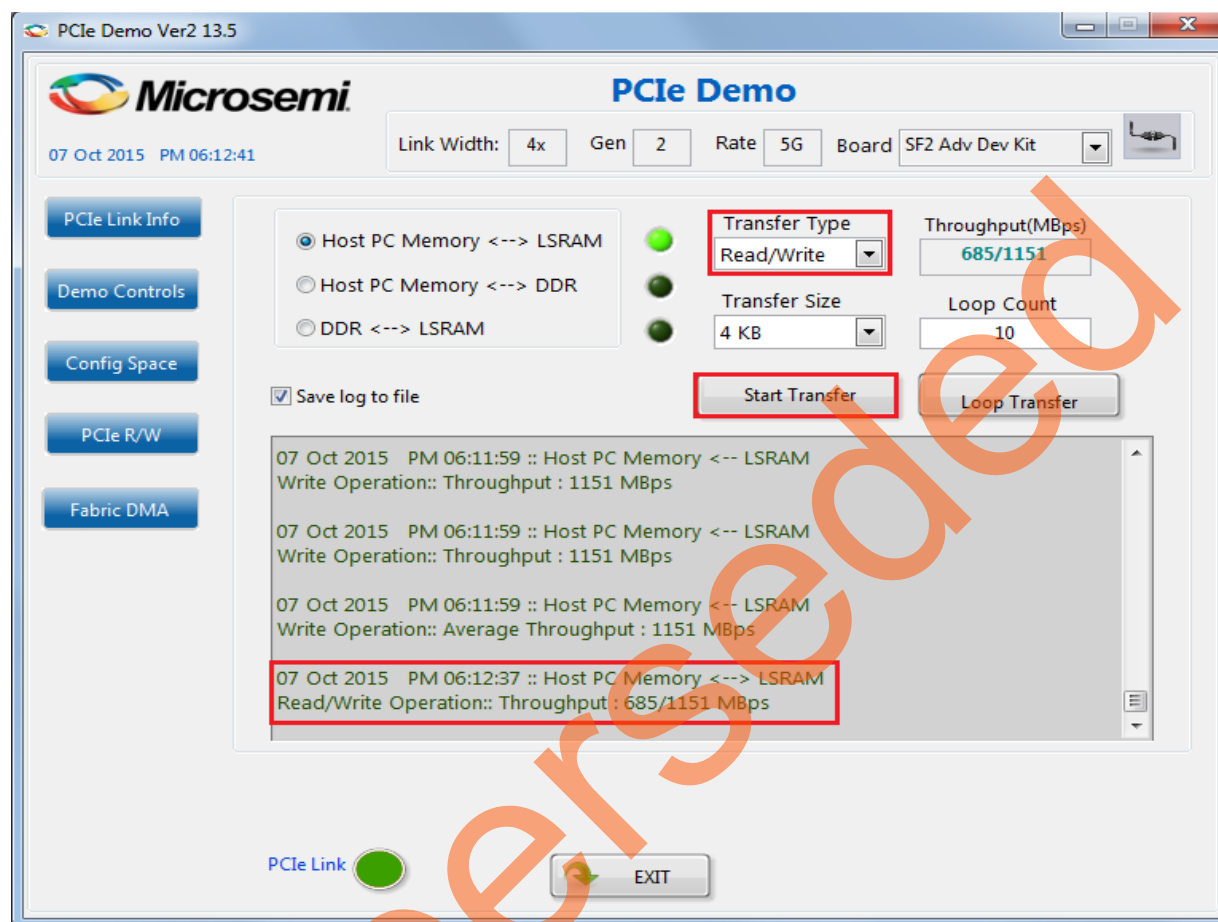

Figure 30 • DMA between Host PC Memory and LSRAM
20. Select **Transfer Type** as **Read/Write** to perform simultaneous read and writes. Click **Start Transfer** to perform a single DMA transaction. After completion of data transfer the throughput is displayed as shown in Figure 30.